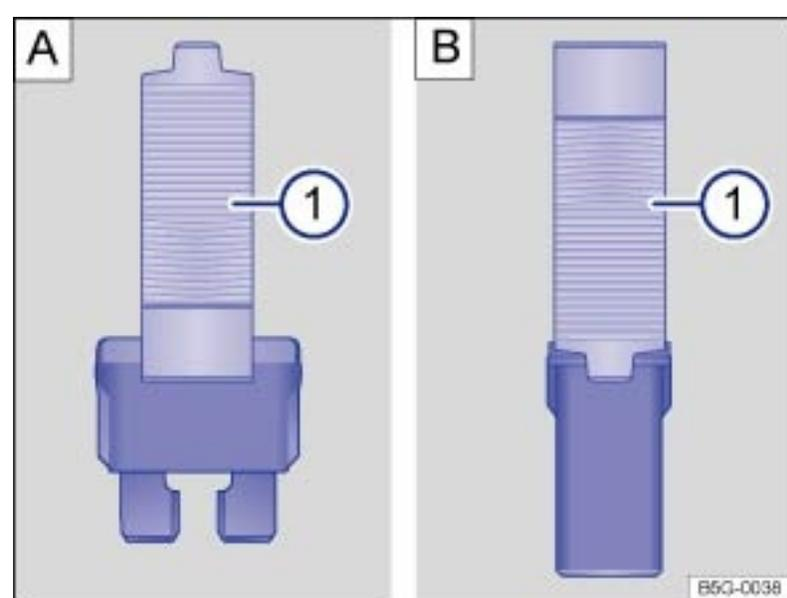

Fig. 223 Removing or installing a blade fuse with the plastic tweezers: : Blade fuse. : JCASE® fuse.
- ▶ Depending on the type of fuse, slide the tweezers → Fig. 223    onto the fuse from the side.